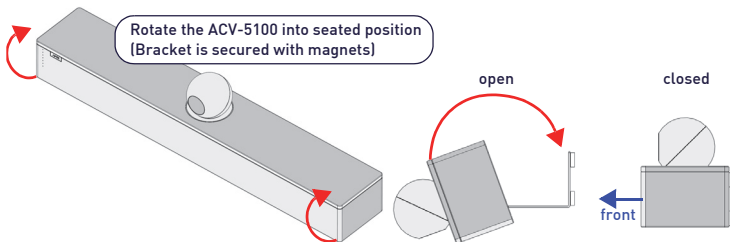

FIG. 7 ROTATING THE ACV-5100 INTO ITS SEATED POSITION
- Remove the Bracket from the ACV-5100 (see FIG. 7 on page 9).
Optionally, place the four included Wall Mount Spacers between the Bracket and the wall to create a 5mm gap for routing flat cables if not hiding them behind the drywall (see FIG. 7).
4. Rotate the ACV-5100 into seated position. The Bracket is secured with magnets (FIG. 7).
After connecting all cables, close the Bracket to return the ACV-5100 to its seated position. The Bracket is secured via internal magnets (FIG. 7):